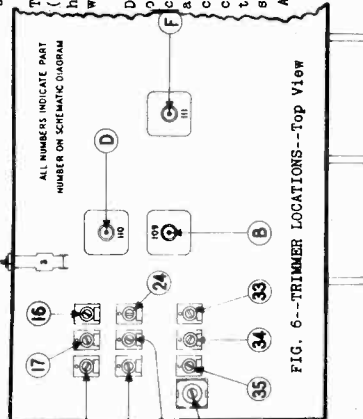

FIG. 6--TRIMMER LOCATIONS--Top View
- (h) Adjust the six trimmers A, B, C, D, E and F on the three I-F coils, Illus. 109, 110 and 111 (Figs. 6 & 7), carefully for maximum output in the sequence given. Then repeat the six trimmer adjustments. During alignment, maintain as low a signal output from the signal generator as is consistent with obtaining at least half scale indication on the output meter.
- (c) Adjust the wave trap trimmer, Illus. G, (Fig. 6,) for MINIMUM output, increasing the signal generator output as necessary to obtain a clearly defined point of minimum output.
- (c) Adjust the oscillator parallel trimmer condenser, Illus. 35, (Fig. 6) to maximum output.
- (d) Adjust the antenna parallel trimmer, Illus. 18, (Fig 6) to maximum output.
- (e) Adjust the detector parallel trimmer, Illus. 22, (Fig. 6) to maximum output.
- (c) Adjust the oscillator tracking condenser, Illus. 38, (Fig. 6) while "rocking" the tuning condenser plates back and forth through resonance until no further increase in output can be obtained.
- (g) If the A.F.C. system is out of alignment, the beat note or whistle will again appear. If the beat note is heard adjust the discriminator trimmer, Illus. F, (Fig. 6), until zero beat is again obtained.
- (c) Adjust the oscillator parallel trimmer, Illus. 34, (Fig. 6), to maximum output. If there are two peaks, the proper one is with the trimmer screw farthest out. (Least capacity.)
- (d) Adjust the antenna parallel trimmer, Illus. 17, (Fig. 6), to maximum output. Then try to increase the output by detuning the trimmer slightly and retuning the receiver dial. If this causes the output to go down, detune the trimmer in the opposite direction. Continue detuning the trimmer and retuning the receiver dial until maximum output meter deflection is secured.
- (e) Adjust the detector parallel trimmer, Illus. 23, (Fig. 6), to maximum output. Try to increase output by rocking the dial through resonance and retuning the trimmer until maximum output is obtained.
- (c) Adjust the oscillator parallel trimmer, Illus. 33, (Fig. 6), to maximum output. Check to see if it has been adjusted to the proper peak by tuning the receiver to approximately 15.1 megacycles. A repeat signal should be heard at this point. If none is present even with greatly increased signal generator output, retune the receiver to 16 M.C. and adjust the trimmer, Illus. 33, to the proper peak with the trimmer screw farther out.
- (d) Adjust both the antenna trimmer, Illus. 16, (Fig. 6), and the detector parallel trimmer, Illus. 24, (Fig. 6), to maximum output. Then try to increase the output by detuning the trimmer slightly and retuning the dial until a maximum output meter deflection is obtained.